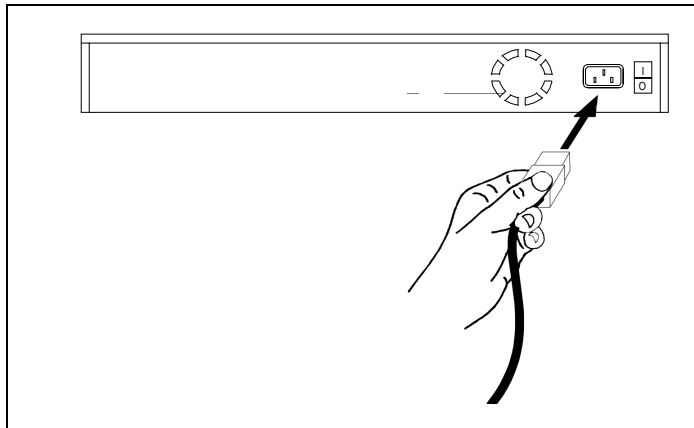

Figure 2-4 Connecting the Power Cord
1. Plug the power cord into the power socket at the rear of the hub, and the other end into a power outlet (see Figure 2-4).